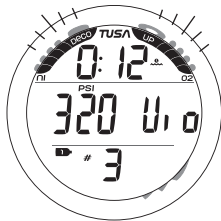

Fig. 88 - VGM SURF MAIN
**VGM Main (on surface)**, information includes (Fig. 88) -